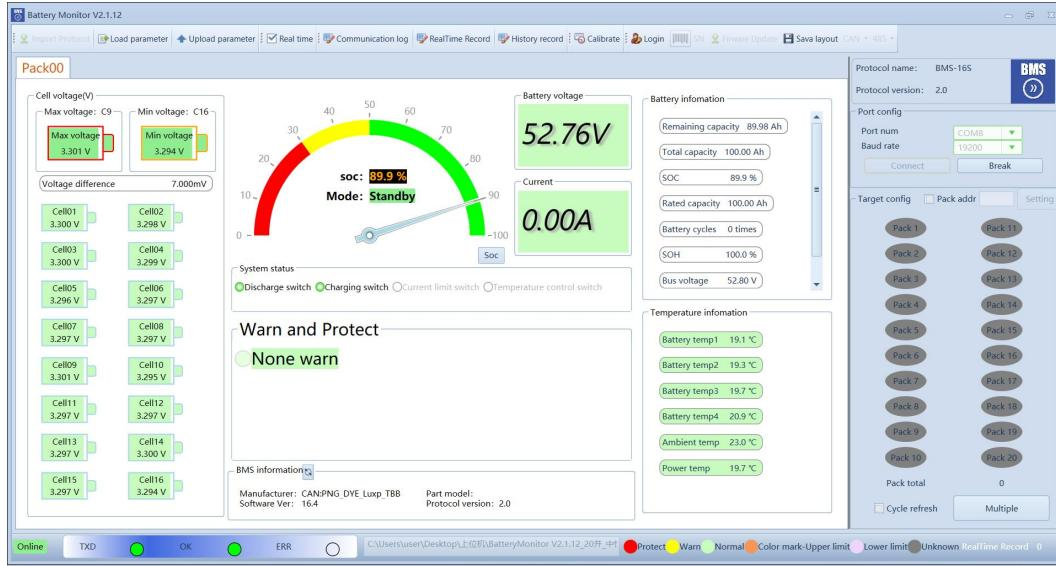

Figure 4-2
4) After a successful connection, the upper monitor will displays the battery data, Figure 4-2